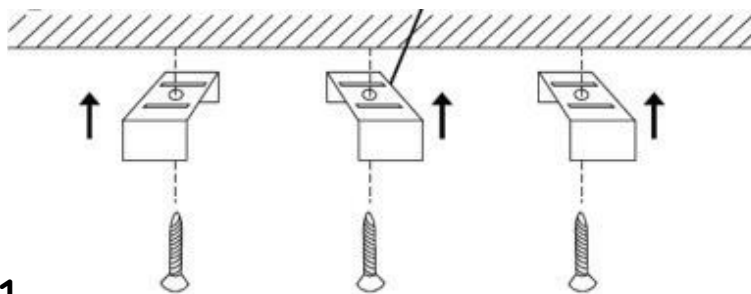

Fig. 1
- Mark the location of the fixing holes for the mounting clips. The mounting clips should be spaced so as to distribute the weight of the luminaire evenly. Drill the holes ensuring not to infringe with any gas / water pipes or electrical cables (see Fig. 1)